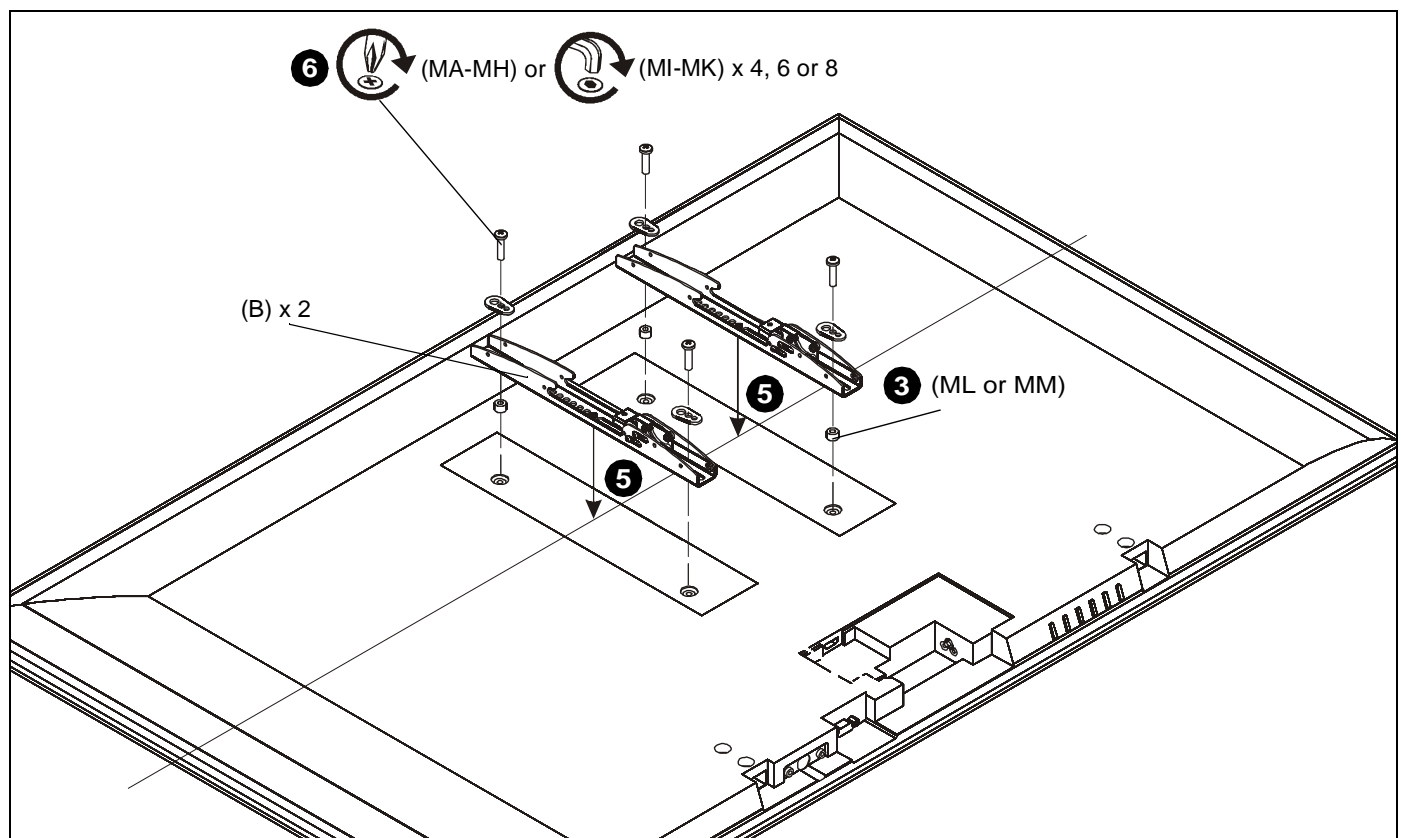

Figure 4
2. Select screw *diameter* by examining hardware (MA-MK) (4mm, 5mm, 6mm or 8mm) and comparing with mounting holes on display. (See Figure 4)
3. Select spacers: (See Figure 4)
- If mounting holes are not recessed and both uprights (B) can lay flat against display, then no spacers are required.
- If mounting holes are recessed, or if protrusions prevent uprights (B) from laying flat, then spacers (ML or MM) must be used.
4. Select screw *length*: (See Figure 4)
- Using your hand, insert **SHORTEST** length screw of selected diameter (MA, MD, MG or MI) through universal washer (MN), uprights (B), selected spacer (ML or MM), into display mounting hole. Do NOT thread screw into hole at this time.
5. Place uprights (B) on display, ensuring: (See Figure 4)
- Center of uprights (B) are as close to the center of the back of display as possible after being installed. Center of bracket is indicated by the diamond-shaped hole.
6. Use selected screws and spacers to install two interface uprights (B) to back of display. (See Figure 4)